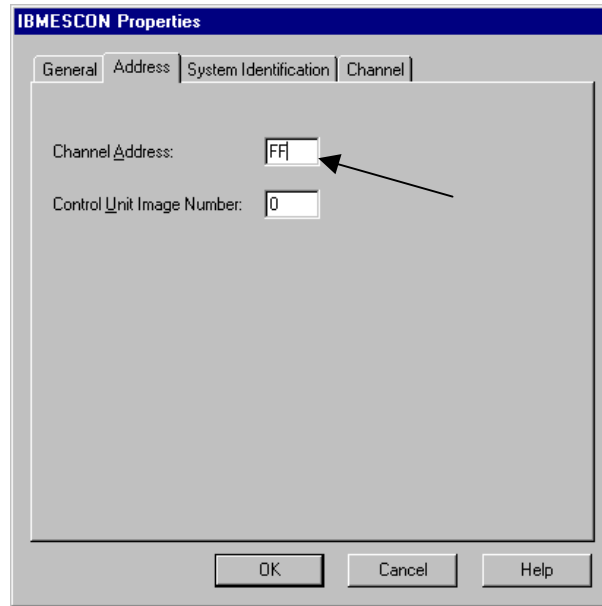

Figure 15-21. Channel (PU) Address]
3. On the connection properties verify the Channel Address (PU Address) matches that defined in the ESCON configuration and mainframe IOCP (Figure 15-21).